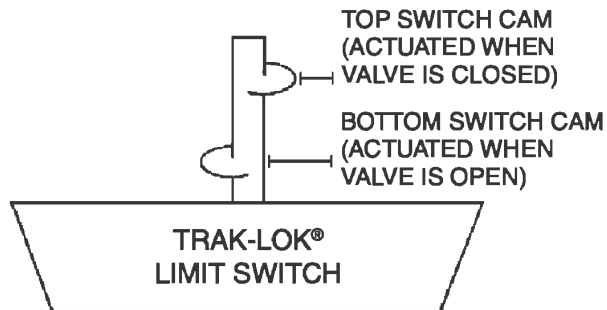

Fig. 1
2. For wiring reference, top switch cam will be nearest the visual monitor and the bottom switch cam will be nearest the Butterfly Valve (see Fig. 1).